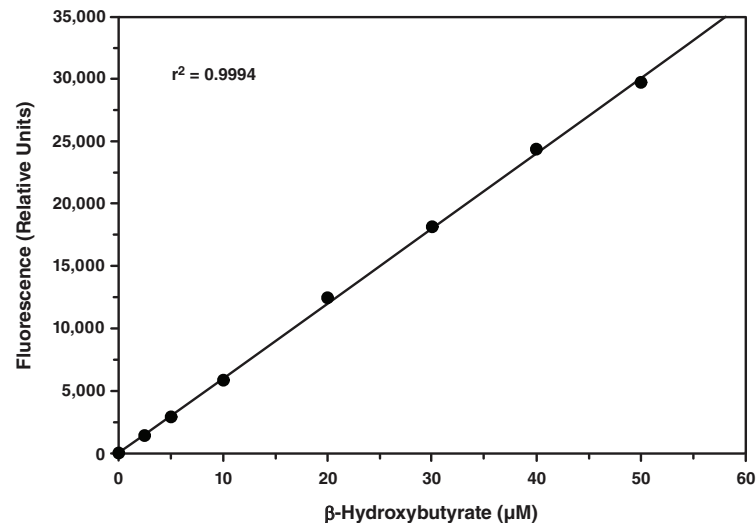

Figure 3. β -Hydroxybutyrate standard curve
3. Plot the corrected fluorescence values (from step 2 above) of each standard as a function of the final β -hydroxybutyrate concentration (μM) from Table 1. See Figure 3, on page 23, for a typical standard curve.